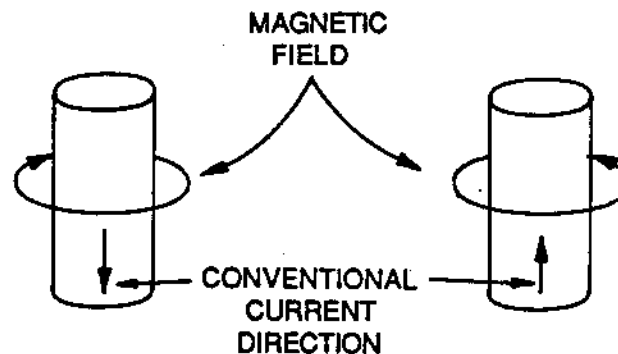

Figure 1: Magnetic Fields Around Conductors Carrying a Current
When conventional current, I , flows through a conductor a magnetic field is produced around the conductor as shown in Figure 1.
- (a) Its polarity or direction changes with the change in the direction of current as shown in Figure 1.